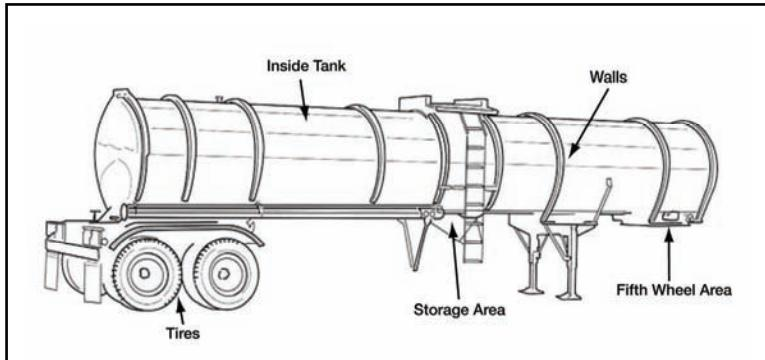

Figure 191-376-5141-6. Liquid tanker
- g. Determine if the commercial vehicle is a propane tanker (see figure 191-376-5141-7).